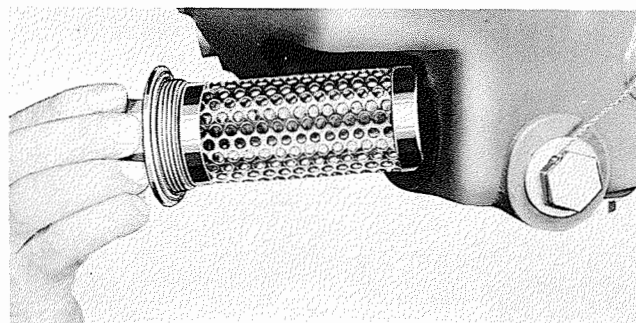

Figure 7-34. Removing Rear Oil Sump Strainer
**7-101. REMOVAL.** Loosen the sump strainer plug using a 1-1/4 inch wrench. Withdraw the strainer. See figure 7-34.